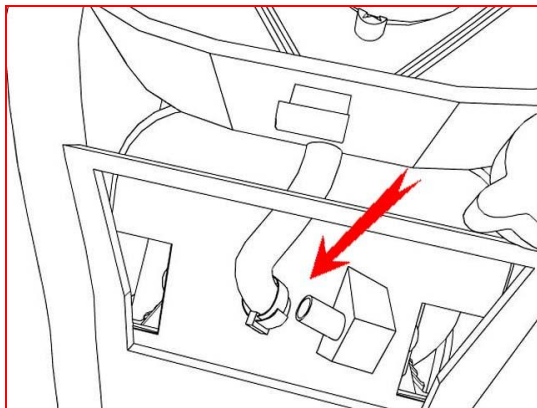

Figure 4
4. Loosen and remove the rear cylinder crankcase breather hose at the head cover. (see figure 4)